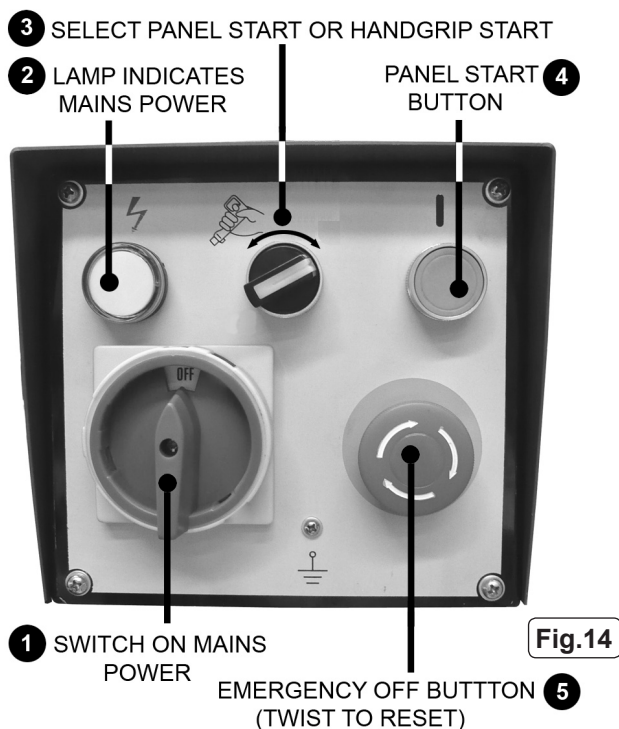

Fig.14
- 5.1.8 Turn on the mains power by turning the switch clockwise. See (1) in Fig.14 above. The power lamp (2) will light.
- 5.1.15 In order to start the machine with the hand grip switch (See 4 in Fig.4) the selection switch on the control panel (See 3 in Fig.14) must be turned to the hand grip symbol.